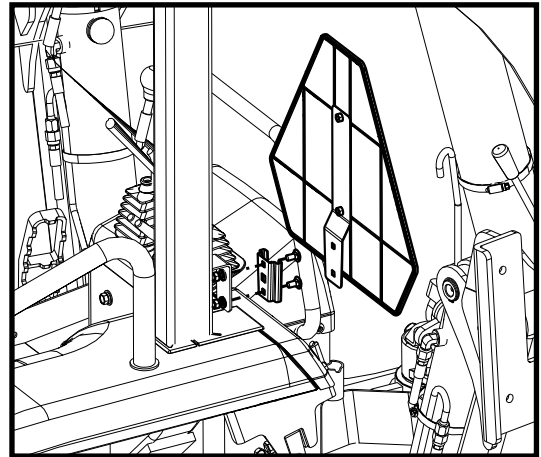

Figure 1.1: SMV Sign And Bracket
- 1.1 Remove and save the Slow Moving Vehicle (SMV) sign and bracket (see Figure 1.1).